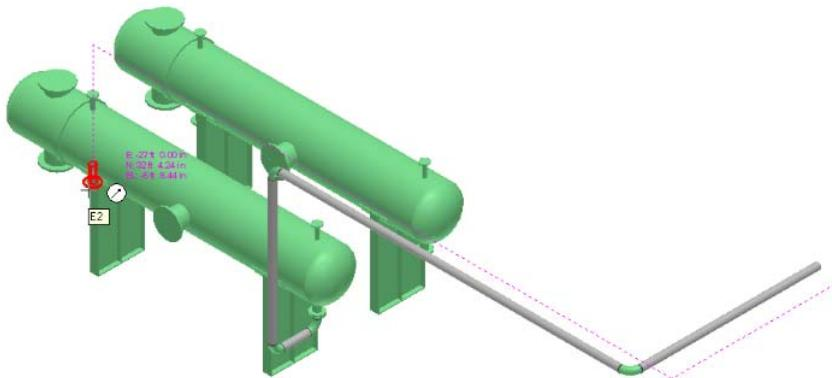

Figure 37: Nozzle E2 in the Graphic View
40. Click the **Route Pipe** button on the vertical toolbar and select the equipment nozzle **E2**, as shown in Figure 37.